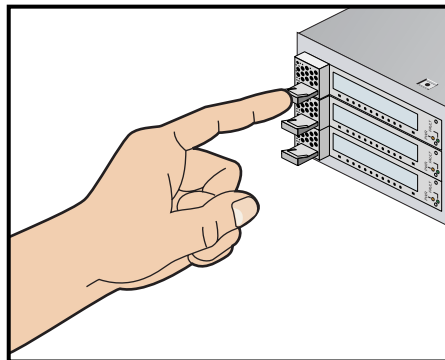

Figure 6-23 Seating the Card in the Slot
8. Push in horizontally on the carrier seating bar, as shown in Figure 6-23, to seat the card securely in the slot.